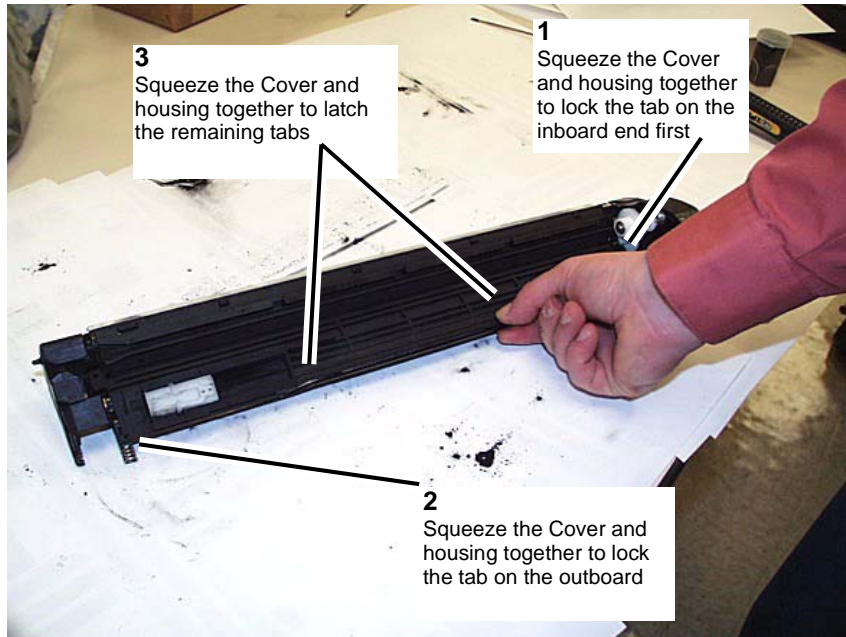

Figure 8 Locking the Cover tabs
11. Press the Cover tabs to lock the Developer Housing Cover. (Figure 8)